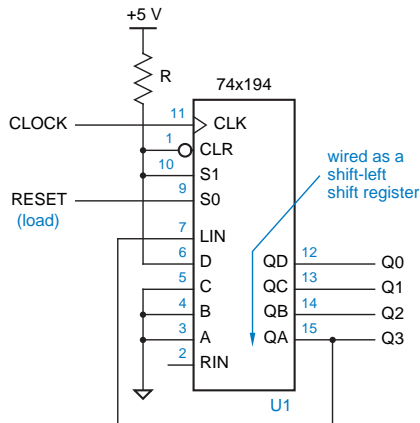

Figure 13: Simplest design for a four-bit, four-state ring counters with a single circulating 1.
- Fig. 13
- Ring counter in Fig. 13 is not robust